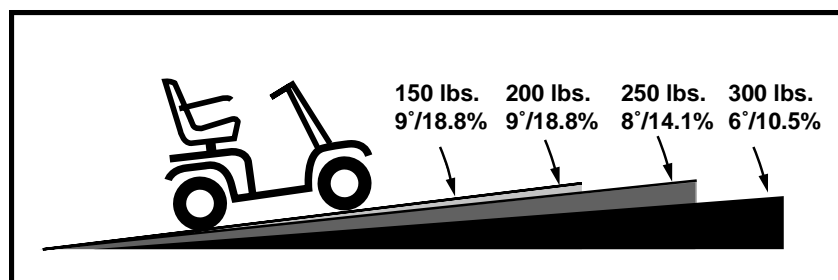

Figure 1. Maximum Recommended Incline Angles
**WARNING! Even though your scooter is capable of climbing slopes greater than those illustrated in figure 1 do not, under any circumstances, exceed the incline guidelines or any other specifications presented in this manual. Doing so could cause instability in your scooter, resulting in personal injury and/or damage to your scooter.**
Handicap public access ramps are not subject to government regulation in all countries, and therefore do not necessarily share the same standard percent of slope. Other inclines may be natural or, if man-made, not designed specifically for scooters. Figure 1 illustrates your scooter's stability and its ability to climb grades under various weight loads and under controlled testing conditions.
**WARNING! Any attempt to climb or descend a slope steeper than what is shown in figure 1 may put your scooter in an unstable position and cause it to tip, resulting in personal injury.**